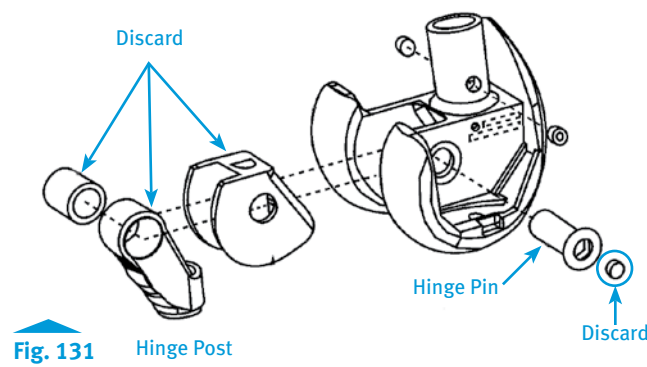

Fig. 131 Hinge Post
- Remove and discard the Hinge Post and Polyethylene Box Insert (Fig. 131).